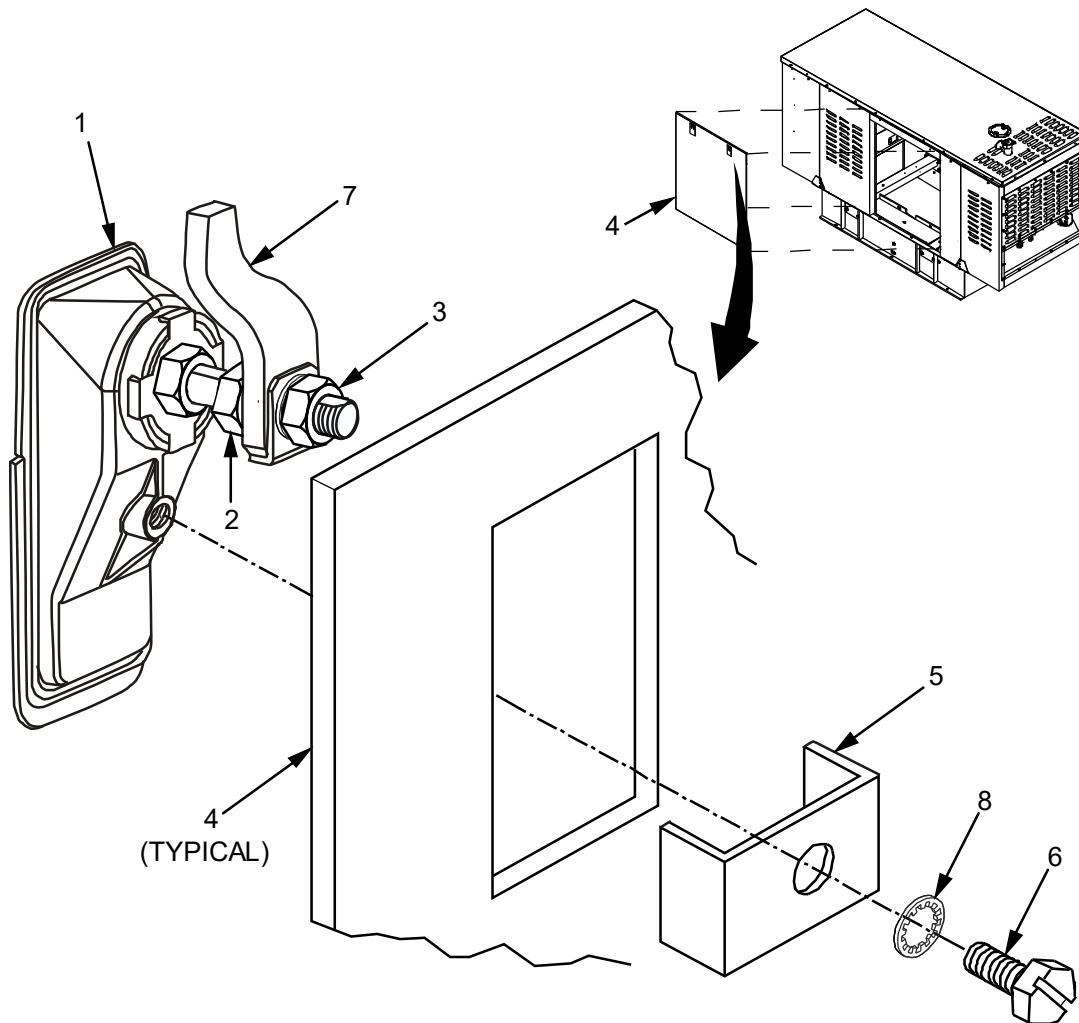

Figure 1. Genset Access Panel Latches - Replace.
3. Remove the Genset Access Panel (Figure 1, Item 4) with the broken latch (Figure 1, Item 1).
4. Remove and retain screw (Figure 1, Item 6), inner tooth washer (Figure 1, Item 8), and back plate (Figure 1, Item 5) from rear of the latch (Figure 1, Item 1). Discard inner tooth washer (Figure 1, Item 8).
5. Remove latch (Figure 1, Item 1) from Access Panel (Figure 1, Item 4).
1. Insert new latch (Figure 1, Item 1) into Access Panel (Figure 1, Item 4).
2. Secure latch (Figure 1, Item 1) to Access Panel (Figure 1, Item 4) using screw (Figure 1, Item 6), new inner tooth washer (Figure 1, Item 8), and back plate (Figure 1, Item 5).
3. If necessary adjust lever (Figure 1, Item 7) and stop nuts (Figure 1, Items 2 and 3) to proper level so latch (Figure 1, Item 1) operates properly.
4. Reattach the repaired Genset Access Panel (Figure 1, Item 4).